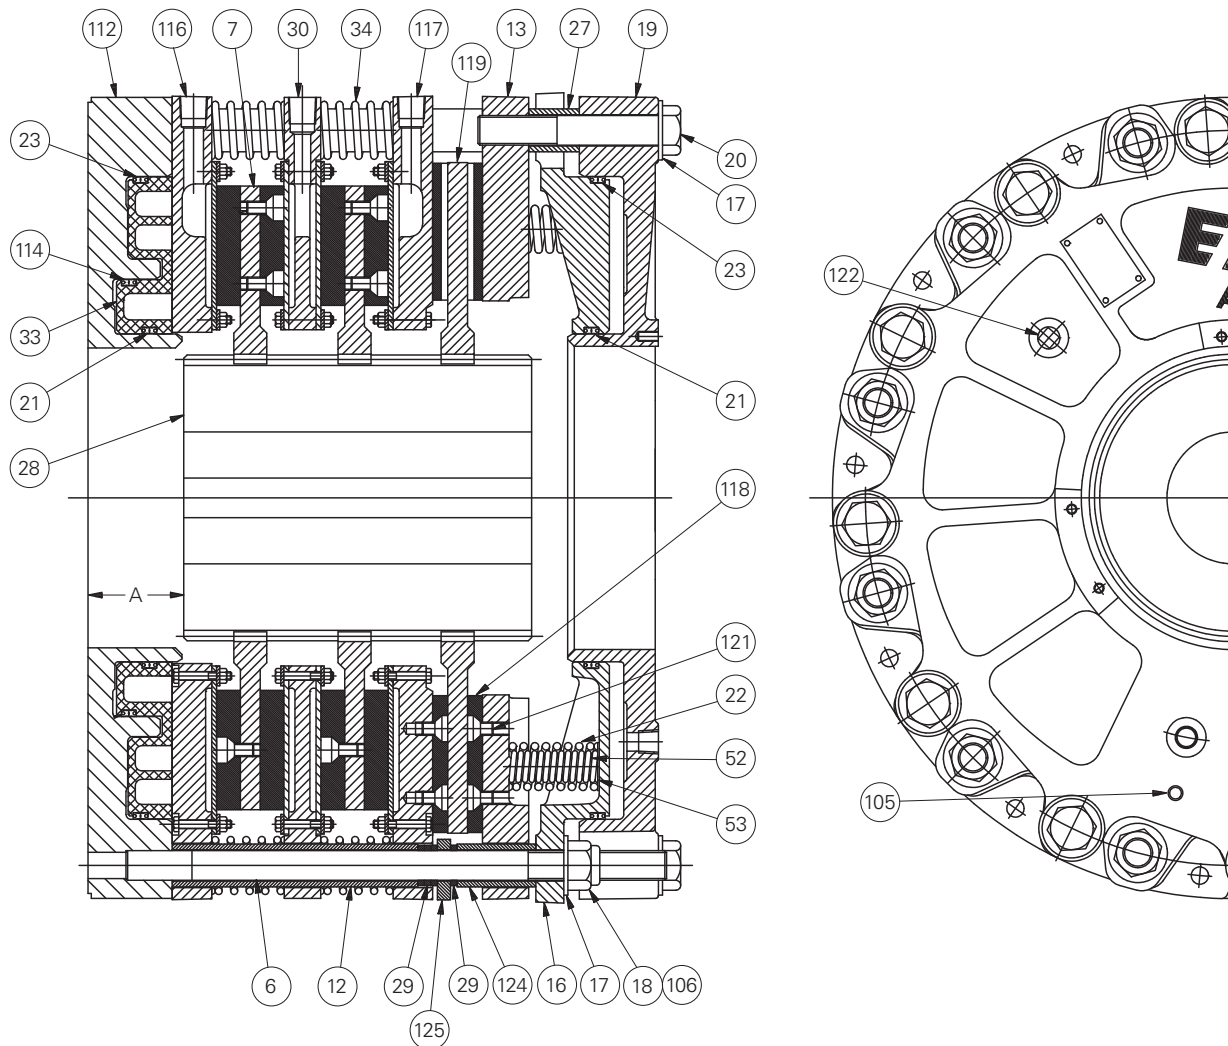

Figure 1
- 1.1.4 The air applied pistons in the WCSB tensioner/brake assemblies are available in either single or dual piston designs. The WCSB tensioner/brake assemblies dual mounting flange / cylinder (112) and dual piston (33) assembly (112) offers precise tensioning control by dividing the piston/cylinder into inner and outer chambers that are isolated by intermediate seals (114). Also, for light tensioning loads, the inner chamber is used, not the outer chamber. See Figure 1. This provides the ability to improve fine modulation of clamping pressure on the tensioner discs and improved control over our standard single chamber design. For very light tensioning loads, the outer piston can be used solely, with no pressure applied to the inner piston. For the largest tensioning loads, both pistons can be used together. If it is desirable to operate the WCSB tensioner/brake assembly at maximum tensioning load and not utilize the precise tensioning feature, the WCSB tensioner/brake assembly can be ordered without the intermediate piston seal (114).
- 1.2.1 Referring to Figure 1, the gear (28) is mounted on the shaft which is to be stopped and the tensioner assembly is attached to the machine frame or a reaction bracket.
- 2.1.4 Refer to the appropriate assembly drawing for the setup dimension between the tensioner mounting surface and the end of the gear (dimension "A" on Figure 1). Gears should be positioned to ensure that when the tensioner is mounted the disc splines will not overhang the end of the gear when components are in both new and worn conditions. The gear is typically bored and keyed for a resulting Class FN2S interference fit for inch shafting and ISO System S7h6 for metric shafting. Contact Airflex Application Engineering for specific recommendations.
- 2.2.4 Heat the gear uniformly to 250°F (121°C) to expand the bore and ease assembly. Press the gear onto the shaft, making sure that the dimension between the gear and the tensioner mounting surface ("A") is maintained. See Figure 1. Allow the gear to cool.